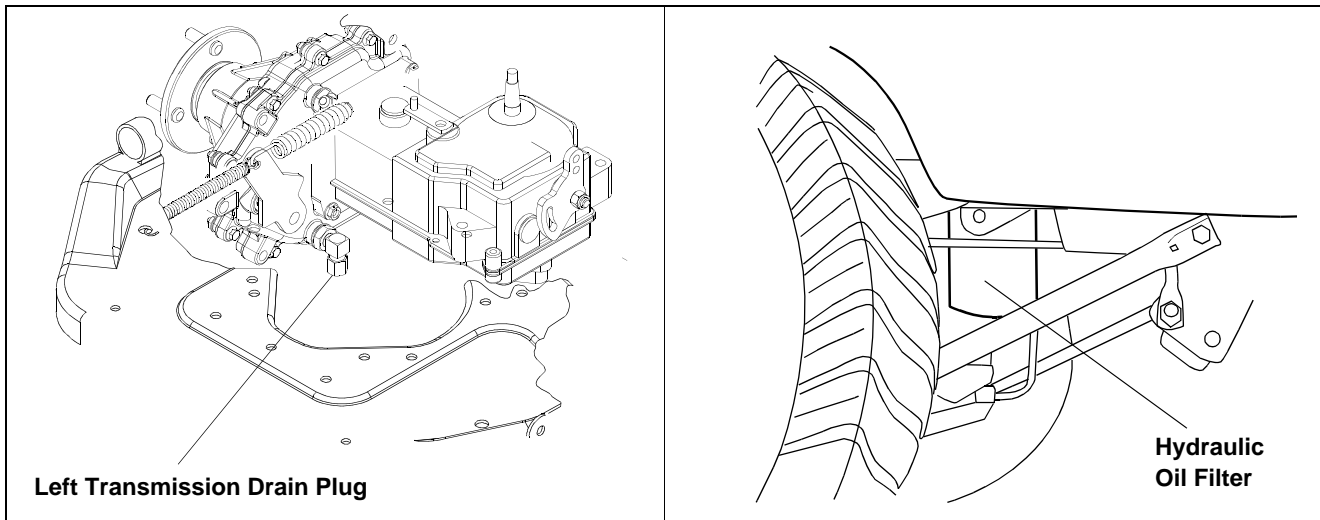

Figure 17
8. Remove the hydraulic filter to allow hydraulic oil to drain. (See Figure 17)
9. Place a small pan under the skid plate and drain oil from both left and right axles. (See Figure 17)